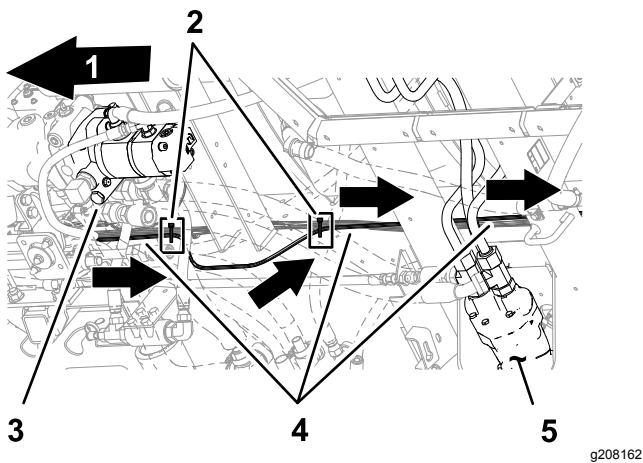

Figure 42
3. Continue routing the wire harness branches and trunk rearward along the rear wire harness of the machine as shown in Figure 42.
- Secure the wire harness of the kit to the rear wire harness of the machine with 2 cable ties as shown in Figure 42.